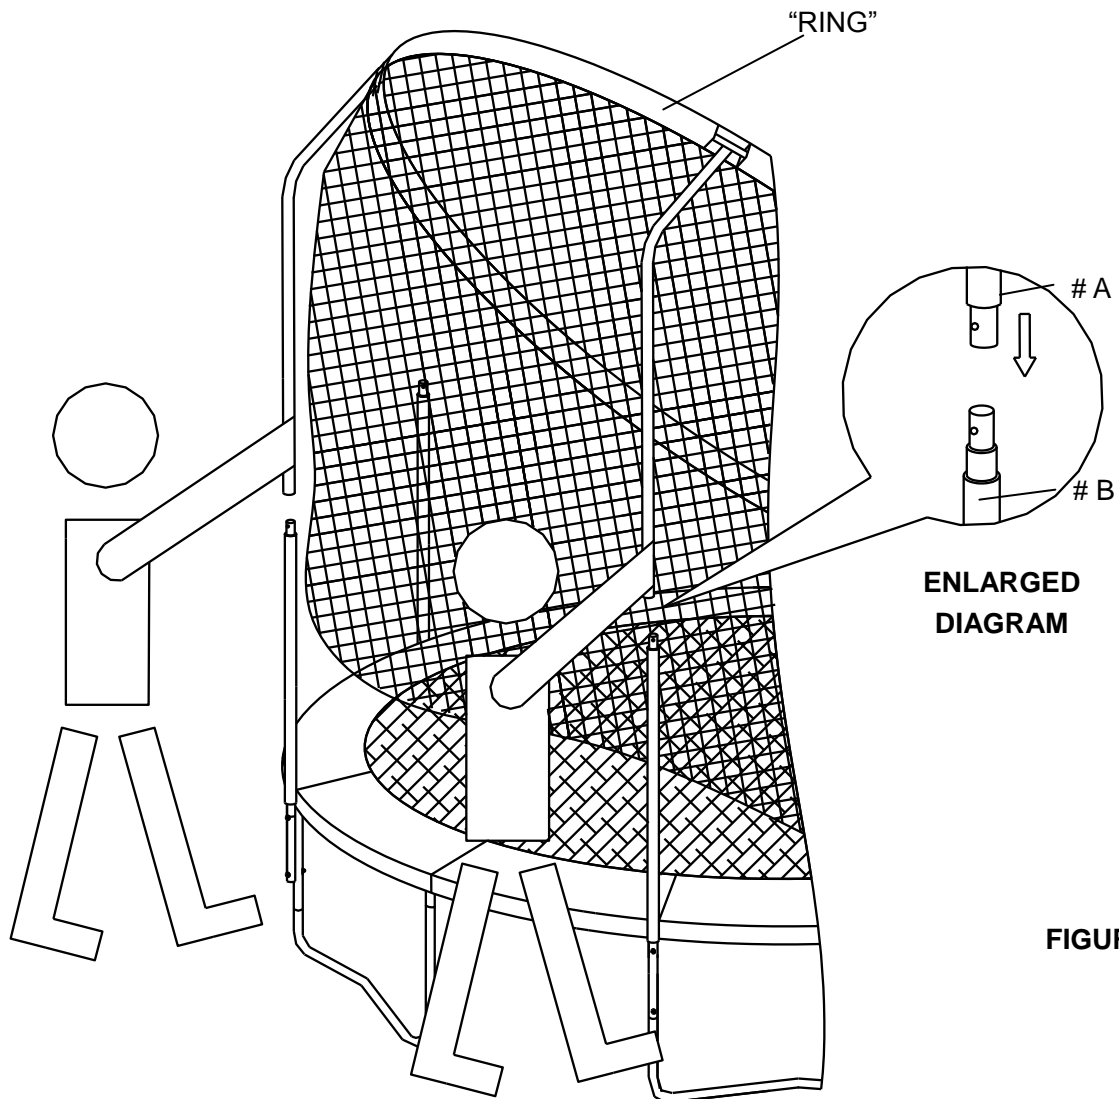

FIGURE 25
H. Now, connect the assembled Upper Frame Tube with Foam (# A) with the Enclosure Netting (attached in the earlier step) to the Lower Frame Tube with Foam (# B) as shown in FIGURE 25.